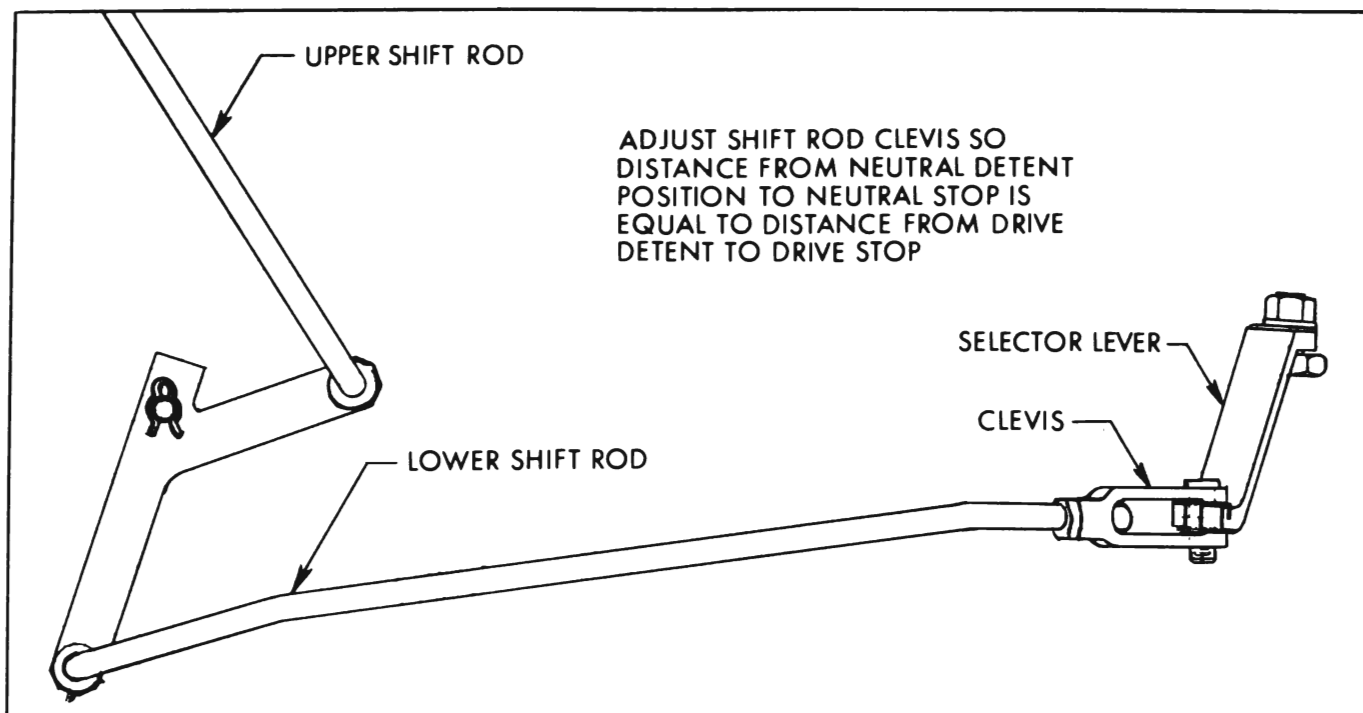

Figure 29—Shift Control Adjustment
4. Move idler lever so that *upper* shift rod is forced upward as far as possible, then turn clevis until clevis pin will just slip in place without moving transmission shift lever. See Figure 29.